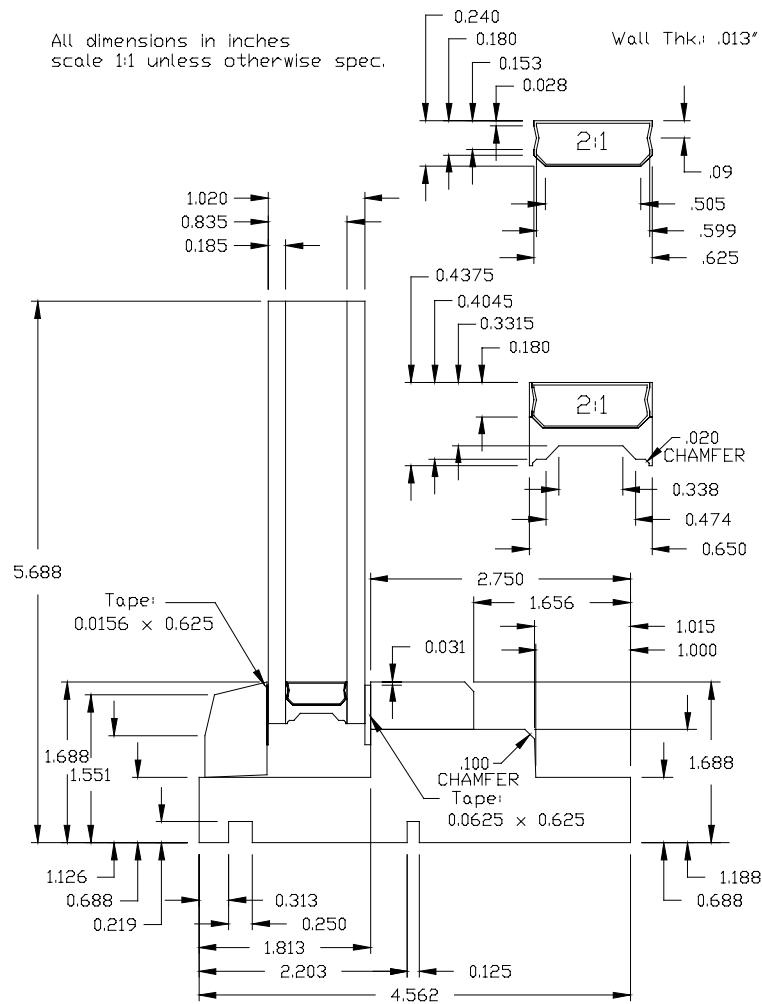

Figure 8-21. Dimensioned drawing of cross section
- For this example, we will initially simplify the drawing process by squaring off the beveled edge, marked as .100 CHAMFER in Figure 8-21. This change will have very little effect on thermal performance. If you would like to include the bevel in your model follow the steps in Section 8.3.3.8.